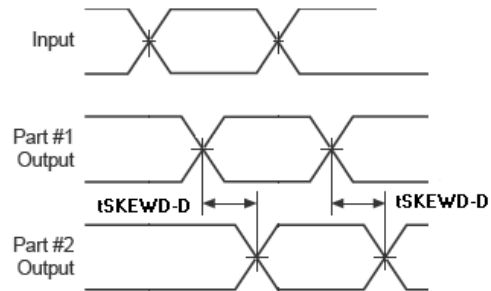

Figure 11. AC Measurement Reference
10. Outputs terminated $100\ \Omega$ across Q_x and $\overline{Q}_x$, see Figure 4. Measured from differential crosspoints to differential crosspoints, see Figure 11.